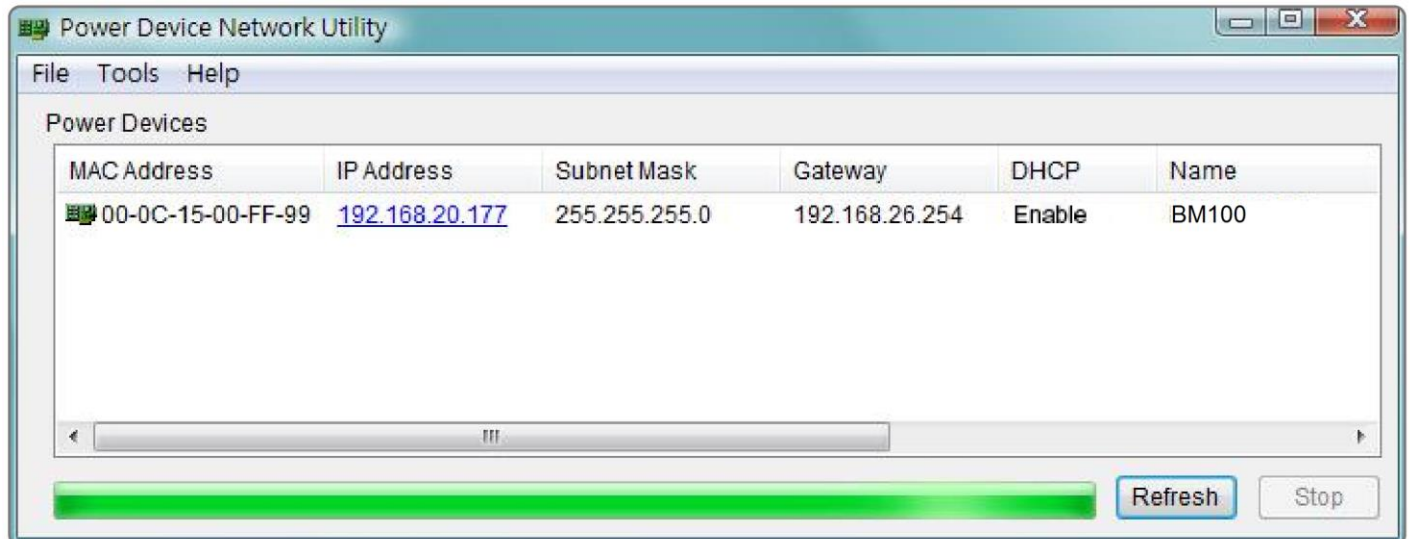

Figure 1. The main window of the "Power Device Network Utility" program.
3. The main window of the Power Device Network Utility program is shown in Figure 1. The configuration tool will display all CyberPower Remote Management devices present on the local network subnet. The "Refresh" button is used to search the local network subnet again.